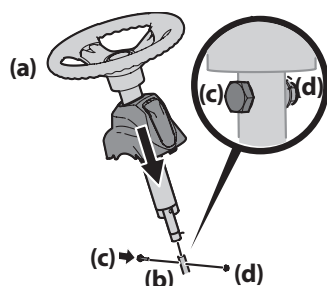

Figure 2
- Remove the shoulder bolt (c) and lock nut (d) from the steering shaft and retain for later steps. See Figure 2.
- Lower the steering wheel assembly (a) onto the lower steering shaft (b) and secure with the shoulder bolt (c) and lock nut (d) previously removed. See Figure 2.